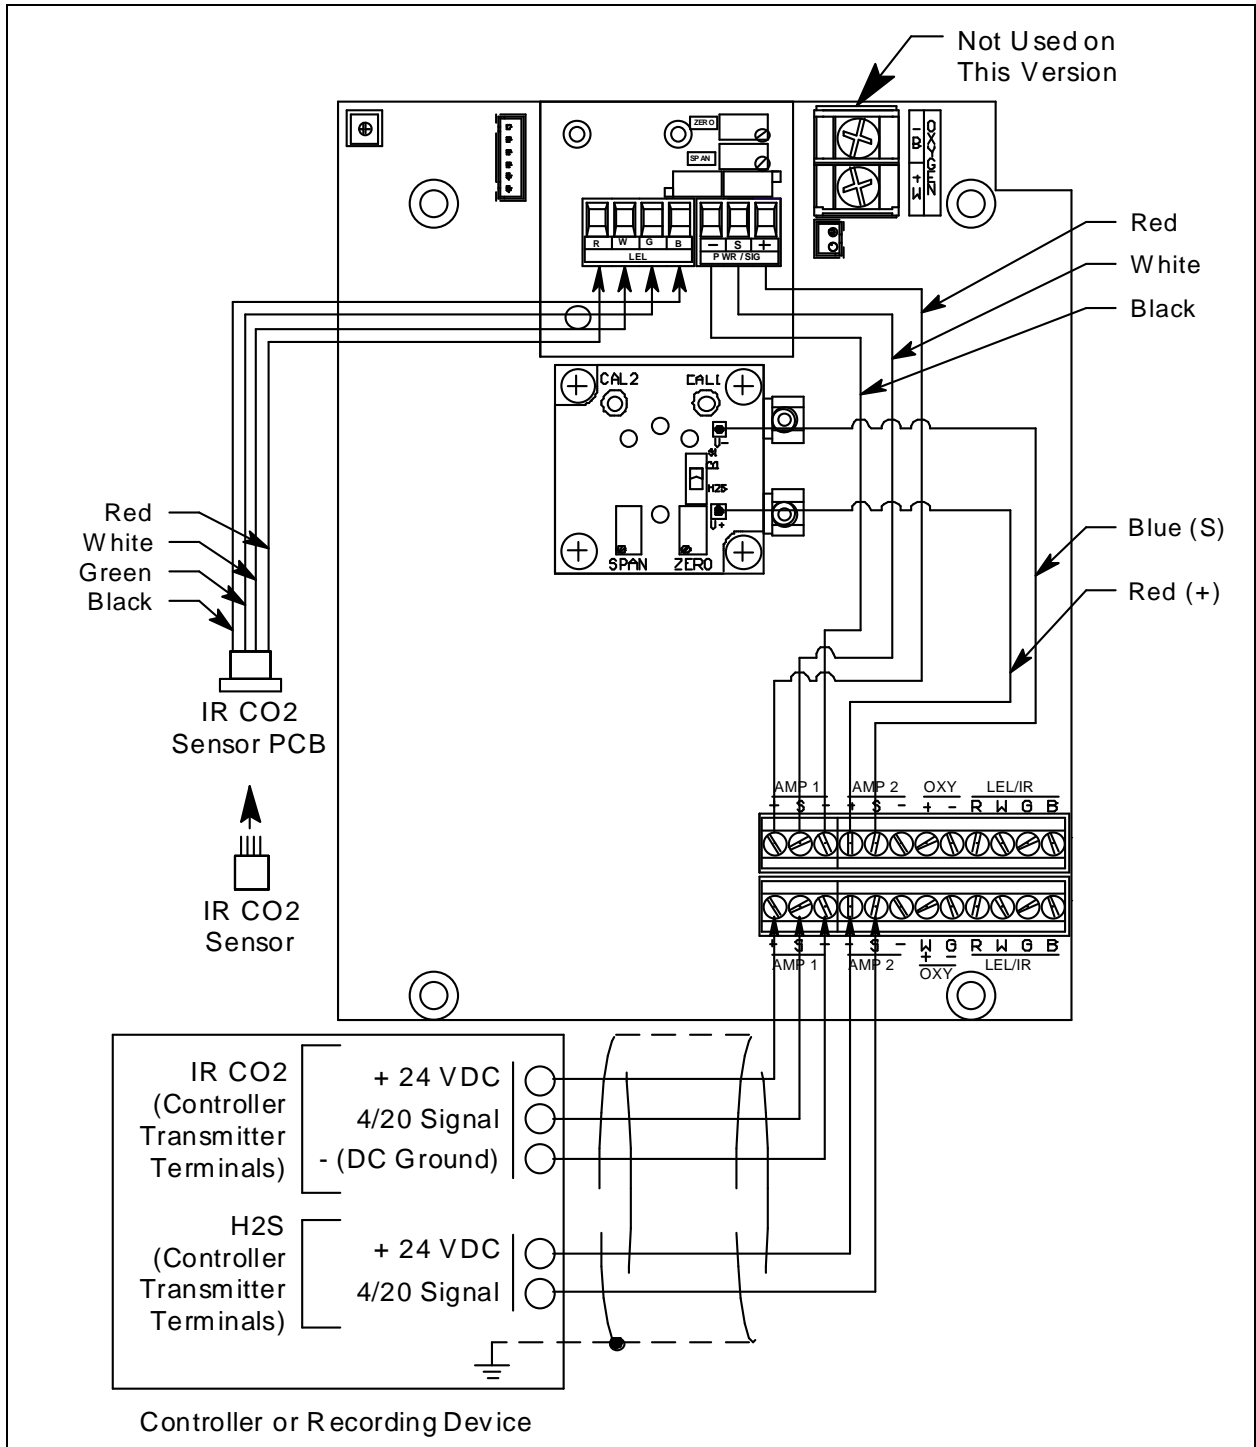

Figure 6: Wiring to a Controller
5. Connect the cable to the sample-draw detector's interconnect terminal strip as shown in Figure 6.
- Connect the wires to the applicable detector/transmitter terminal strip at the controller as shown in Figure 6. Refer to the controller operator's manual and the controller detector head specification sheet for the 35-3001A-13-XX for detector/terminal strip connections specific to the controller.